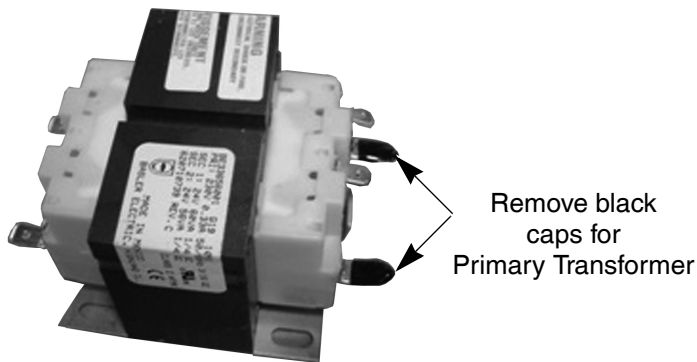

**Figure 3. Transformer Lead Location and Colors**
4. Connect the yellow lead to the left hand terminal on the transformer. Connect the blue and brown leads to the right terminals, as shown in Figure 3.